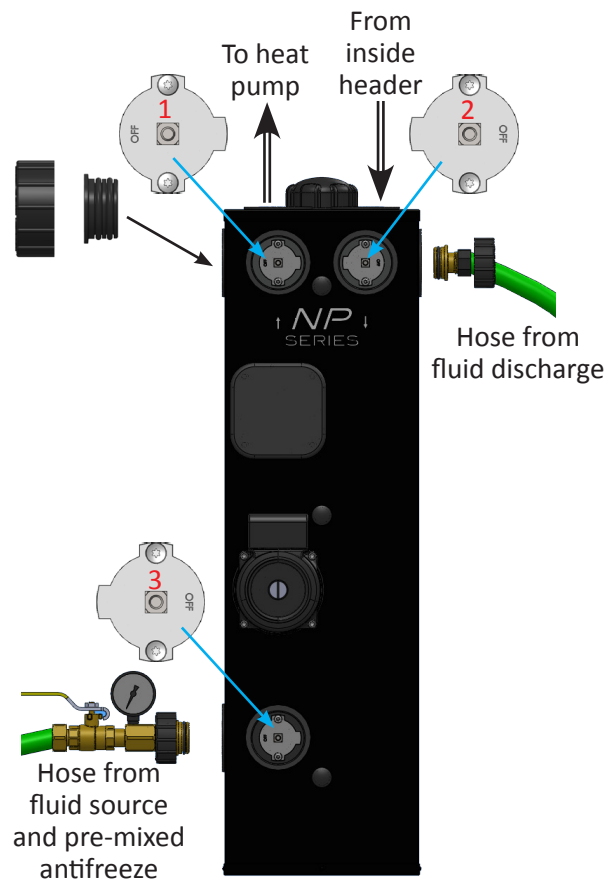

Figure 10: Flushing with inside header
3. Cap the unused port on discharge side of the flow center with a double O-ring plug seal and cap (Figure 10). This will prevent accidental discharge through the valve during the flushing process.
in Figure 10. The supply end of the hose should be connected to a clean water supply source, or to a transfer pump and pre-mixed antifreeze source.
5. Rotate OFF on valve #3 to the 3-o'clock position to allow the tank to be filled with fluid (Figure 10). Open the fluid supply and Gooser ball valve to allow the tank to fill. Once the tank is full, close the Gooser ball valve.